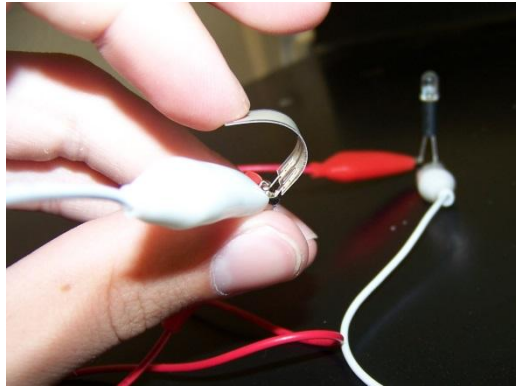

Figure 4. Bending the polymer film
5. Bend the polymer film back and forth slowly (Figure 4), increase the speed at which you are bending the material until the LED lights up with each bending motion. Show the effect to the students.